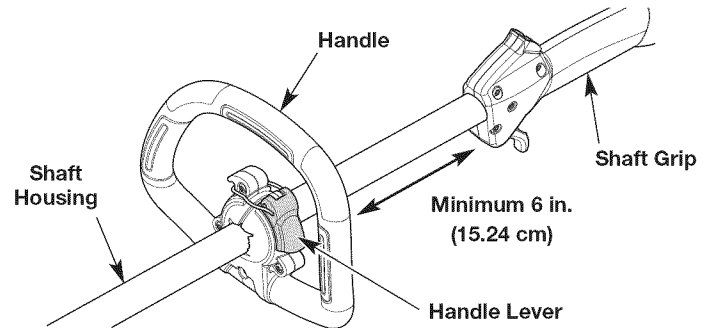

Fig. 2
1. Flip the handle lever up to loosen the handle (Fig. 2).
2. While holding the unit in the operating position (Fig. 13), move the handle to the location that provides the best grip. Place it a minimum of 6 inches (15.24 cm) from the end of the shaft grip (Fig. 2).
3. Tilt the handle as desired (Fig. 2).